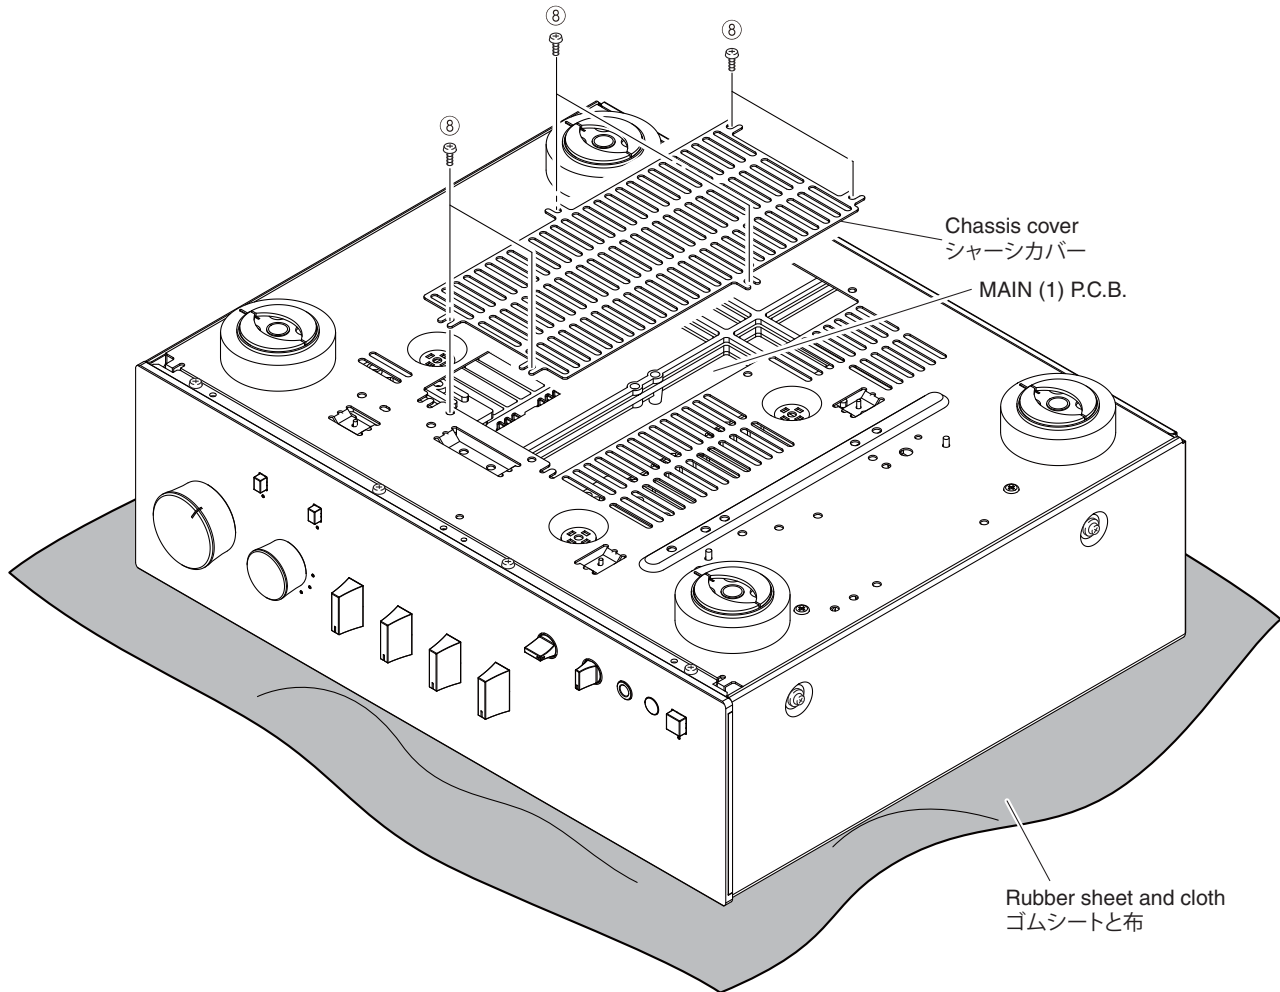

Fig. 5
- Spread the rubber sheet and the cloth. Then place this unit on the cloth upside down. (Fig. 5)
- Remove 6 screws (⑧) and then remove the chassis cover. (Fig. 5)
- ゴムシートと布を敷き、本機を上下反転します。(Fig.5)
- ⑧のネジ6本を外しシャーシカバーを取り外します。(Fig.5)